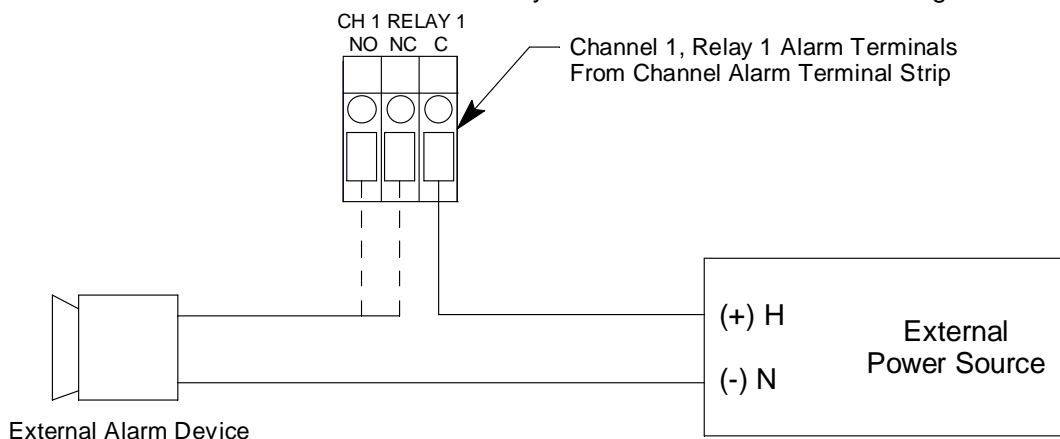

Figure 15: External Alarm Wiring
- Connect the leads from the external alarm device and an external power source to the selected channel alarm or fail relay contact terminals as shown in Figure 15.